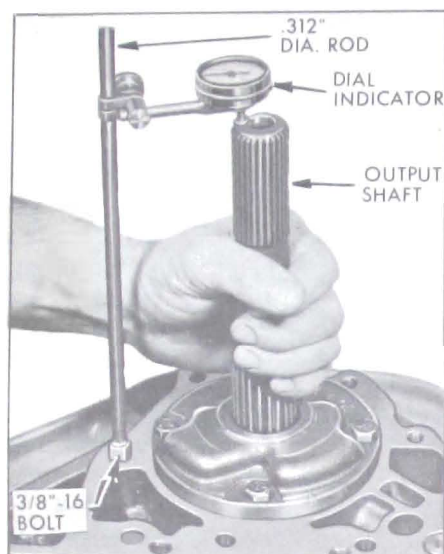

Figure 5-119—Checking Output Shaft End Play Inside Case
7. Assemble a suitable dial indicator support to the transmission case. A 3/8" - 16 bolt with a .312" rod welded to the head makes an excellent arrangement. Assemble dial indicator to rod so plunger bears on end of output shaft. See Figure 5-119.